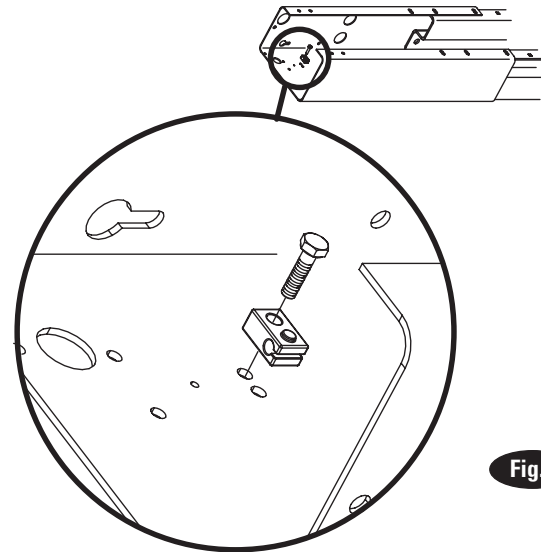

Fig. 3
**2. Latch Cable Guides:** Install the latch cable conduit guide brackets to column extensions with (1) 1/4"-20NC x 1" HHCS and 1/4"-20NC Flanged Locknuts, Fig. 3. HHCS should go through hole nearest the edge as shown, Fig. 3.
**3. Column Extensions:** While column is on the ground, install column extensions using (4) 3/8"-16NC x 1" lg. Carriage Bolt and Flanged Locknut, Fig. 3 & Fig. 1b. Use (2) 3/8"-16NC x 2-1/2" lg. Carriage Bolt and Flanged Locknut to attach the tie bar and the column extension together at the column's uppermost holes, Fig. 3. The tie bar is positioned on the outside of the column extension. Adjust the column extensions plumb.
**IMPORTANT:** All star washers are to be mounted on the right side column to ensure grounding of overhead limit switch. Star washers are not needed when mounting to left side column. Notice the column extension mounting, Fig. 3 and overhead limit switch mounting as well in Fig. 3 & Fig. 6.